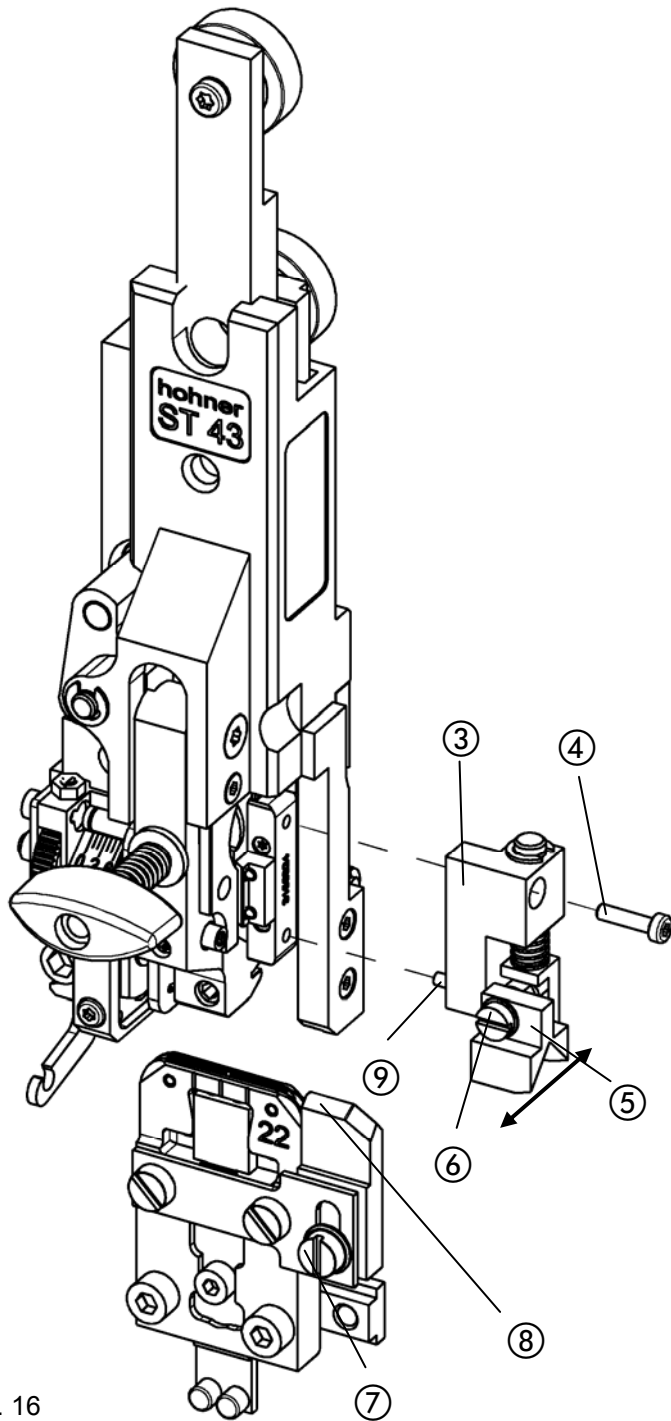

Fig. 16
- Fig. 16 -
- In order to install the holding down device ③, insert the guide pin ⑨ into the borehole on the bender and tighten the fastening screw ④.
- The centering prism ⑤ can be moved back and forth by turning the adjusting screw ⑥.
- Move the centering prism ⑤ backward or forward until it is precisely aligned with the prism of the slider ⑧.
- Adjust the height of the prism ⑧ (approx. 0.5 mm above the clincher box) by moving it in the slot and tighten the fastening screw ⑦.